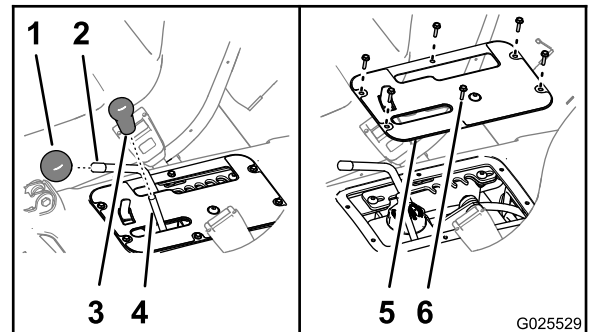

Figure 60
1. Remove the knobs from the hydraulic-lift lever and the speed-range lever (Figure 60).
2. Remove the 6 hex-washer screws (#10 x 3/4 inch) that secure the control-cover plate to the seat base, and remove the cover plate (Figure 60).
6. Align the holes in the control-cover plate to the holes in the seat base (Figure 60).
7. Secure the plate to the base with the 6 hex-washer screws (Figure 60) that you removed in step 2.
8. Thread the knobs onto the rods for the hydraulic-lift lever and the speed-range lever (Figure 60).
2. Remove the knobs from the hydraulic-lift lever and the speed-range lever (Figure 60).
3. Remove the 6 hex-washer screws (#10 x 3/4 inch) that secure the control-cover plate to the seat base, and remove the cover plate (Figure 60).
9. Align the holes in the control-cover plate to the holes in the seat base (Figure 60).
10. Secure the plate to the base with the 6 hex-washer screws (Figure 60) that you removed in step 3.
11. Thread the knobs onto the rods for the hydraulic-lift lever and the speed-range lever (Figure 60).